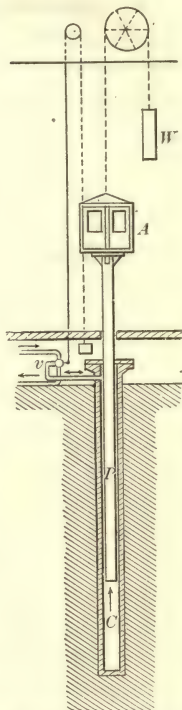

FIG. 49. — Hydraulic elevator.
55. Hydraulic elevators. Pascal's principle is also used in hydraulic elevators, which are commonly employed where heavy machinery is to be lifted. A simple form is shown in figure 49. At the bottom of the elevator well is a pit as deep as the building is high. In the pit is a cylinder (C) and in this cylinder is a plunger (P), to the top of which the elevator cage (A) is firmly fastened. When water under pressure (often simply the pressure of the water mains) is admitted through the valve (v) into the cylinder, the plunger rises and forces up the elevator. The weight of the elevator is partly counter-